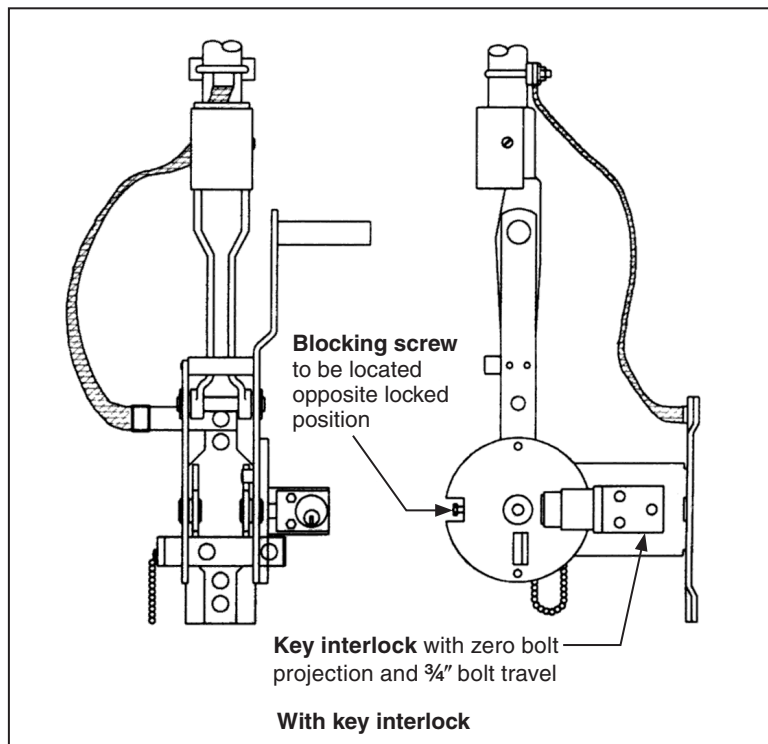

Figure 15. Key interlocks.
A key interlock (Superior or equivalent), supplied with the interrupter switch when the erection drawing (ED) number includes Standard Minor Modification Suffix “-S6,” will be mounted on the operating handle (see Figure 15). One of the two slots in the operating handle will be blocked to provide either a locked-open or locked-closed arrangement.